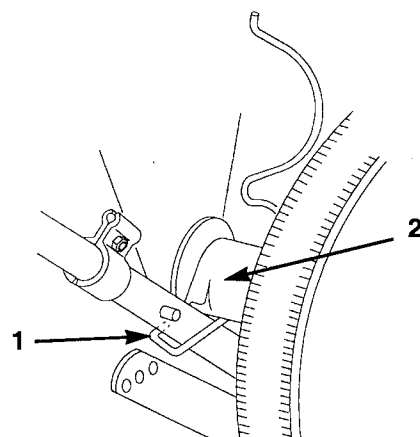

Figure 24
- C.** Place the right-hand hold-down spring under the axle support and hook it under the mower handle (Fig. 24).